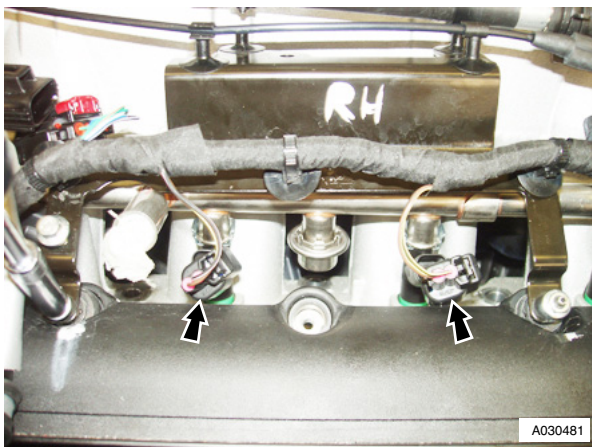

Fig. 7
16. Disconnect multiplugs (x8) to Injectors (see Fig. 7).